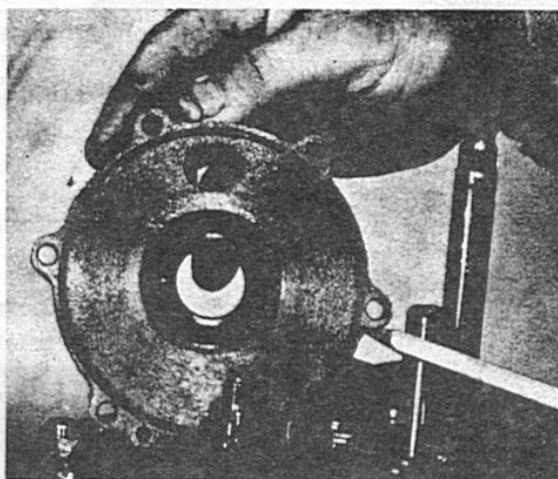

Fig. 16
18. Carefully check the large "O" ring around the outer perimeter of the rotary valve cover and check the center oil seal to be certain that they are in good condition. (Figure 16) Install the rotary valve cover and the 6 retaining screws.